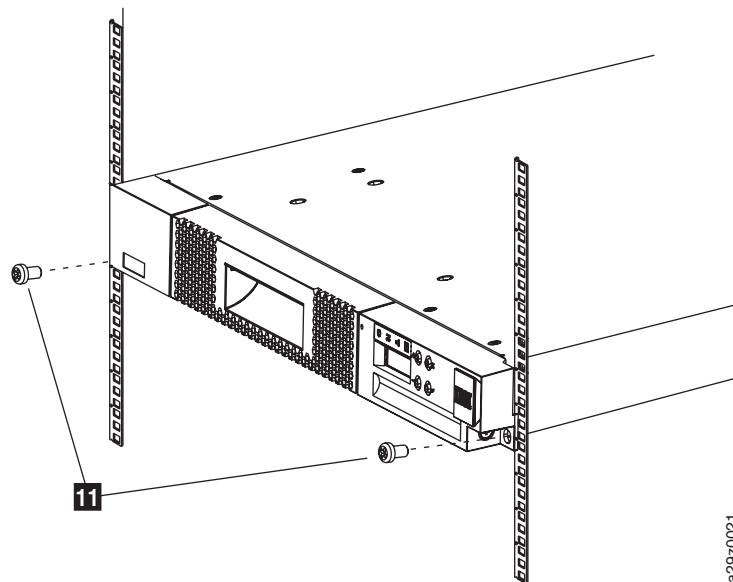

Figure 8-21. Securing the front of the library in the rack
6. Slide the library chassis into the rack. Secure the front of the library to the rack using the large black screws **11** in the bottom holes on each front bracket (Figure 8-21).